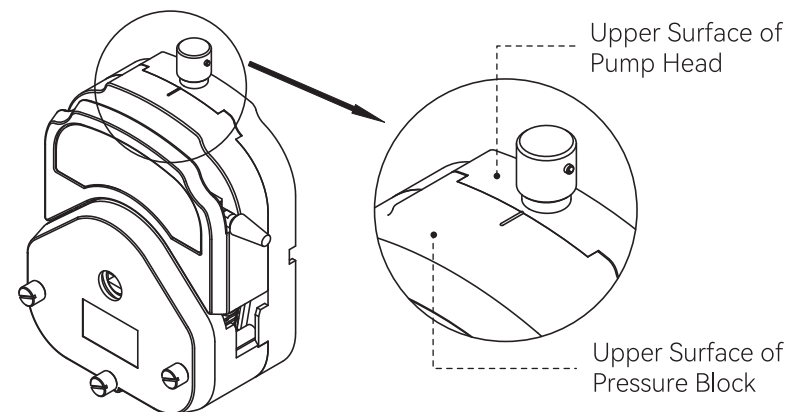

Figure 7 Schematic Diagram of YZ35 Knob position
- After fine-tuning the YZ35 knob, the upper pressure block and the body should be basically in the same plane (Figure 7). To increase the service life of the tube, the pressure block plane can be slightly higher than the body plane.